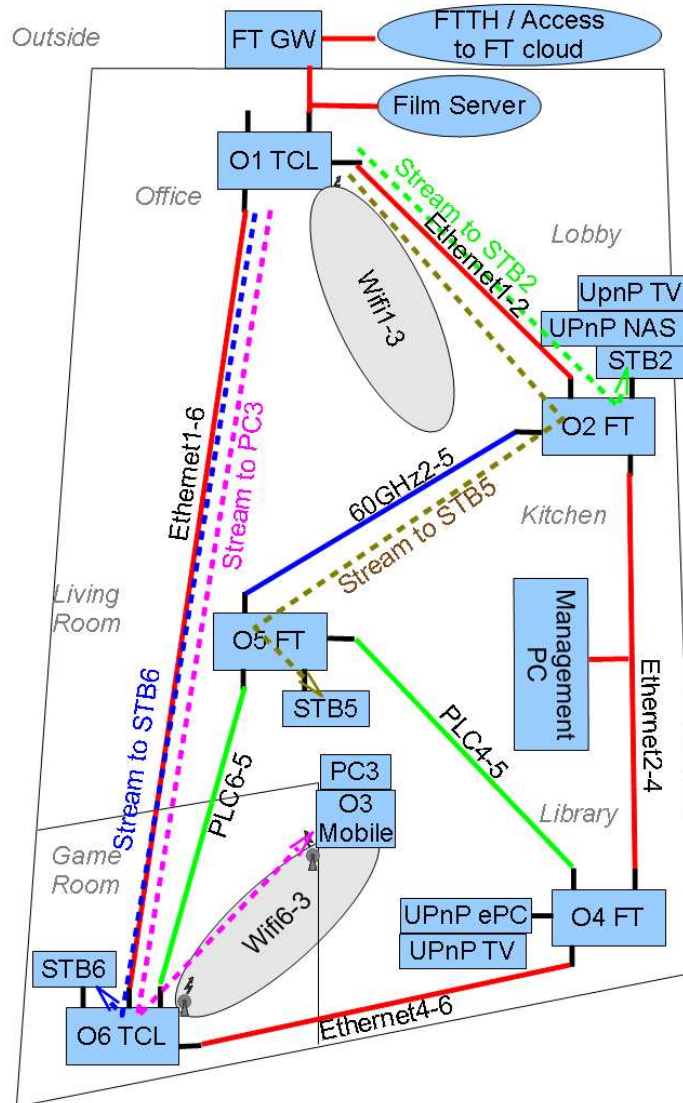

Figure 2: Streams view for Omega scenarios
Based on this topology, scenarios can be implemented as shown in Figure 2:
- o 4 video streams: to STB2, to STB6, to STB5 and to PC3 (Figure 2)